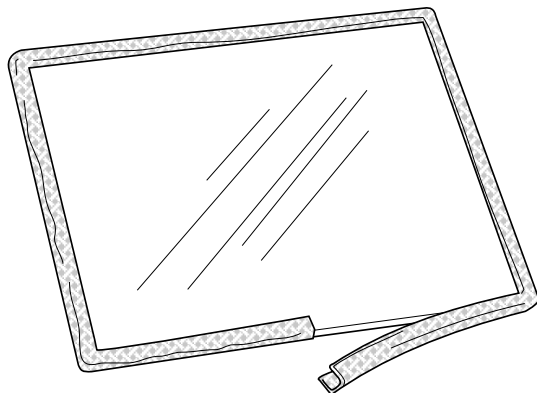

Figure 34. Wrap the gasket around the glass panel.
4. Apply the gasket to the panel, wrapping the adhesive side down around the panel edge. See fig. 34.